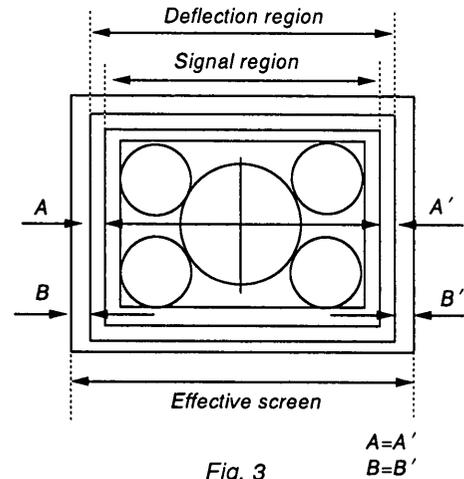

Fig. 3
7. Adjust **[60 VIDEO PHASE]** so that the signal region comes to the center ($A=A'$) of the deflection region. (Fig. 3)